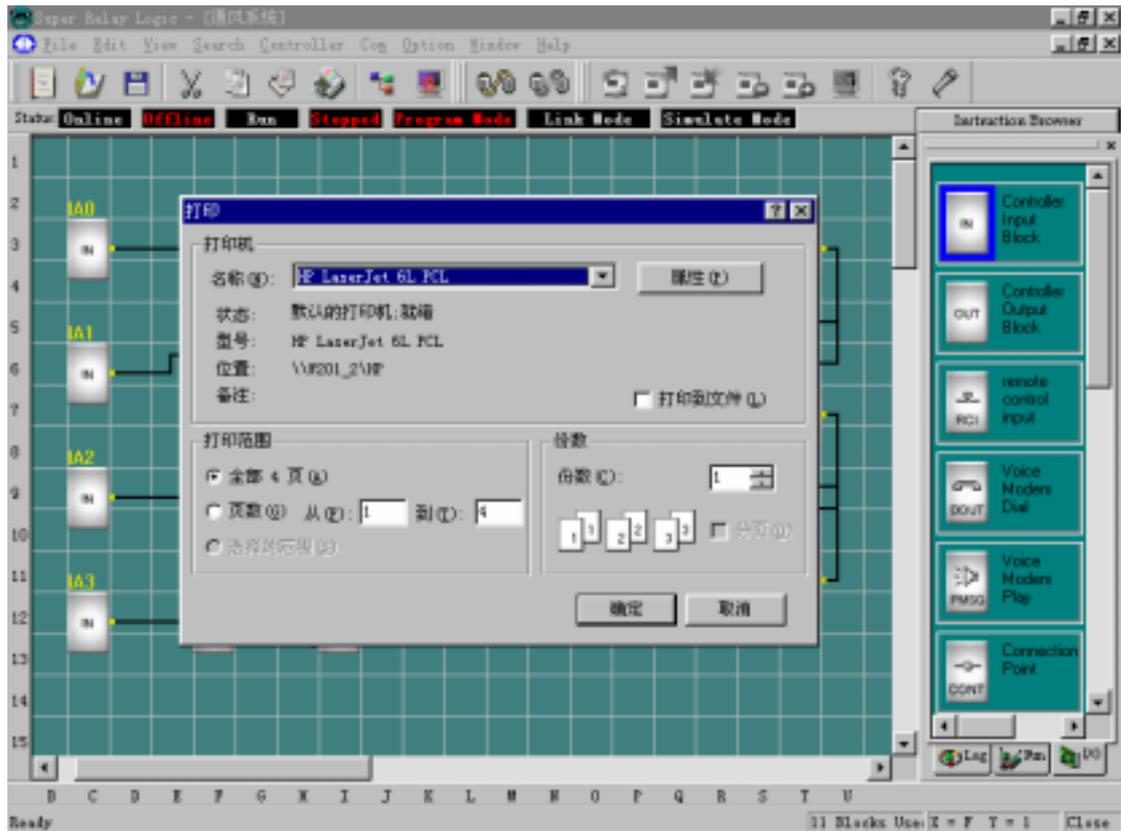

Fig 4.15 File Print
2. Dialog box as shown in fig 4.15 appears, set up your printing requirement according to the cue of dialog box.